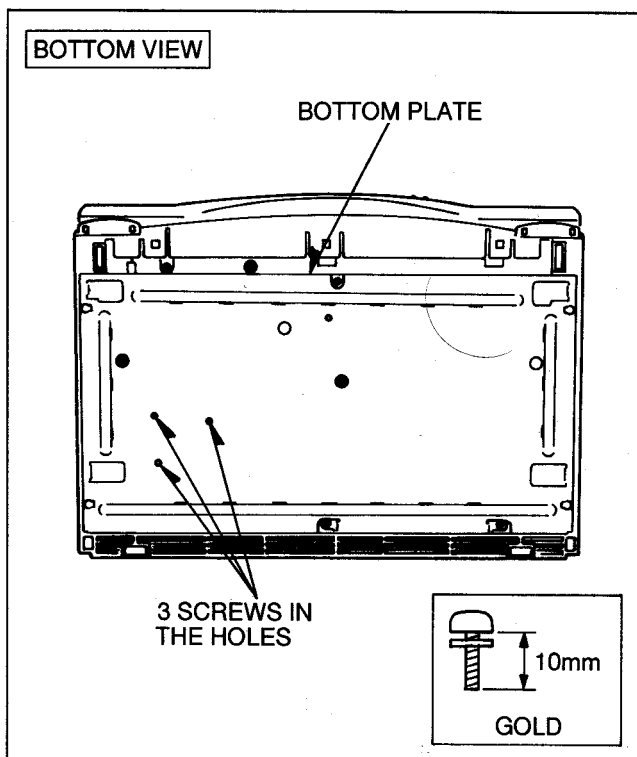

Fig. S3
- 2) Remove the 3 screws of the Cylinder Unit with a magnetized screw driver through the holes on the Bottom Plate as shown in Fig. S3.